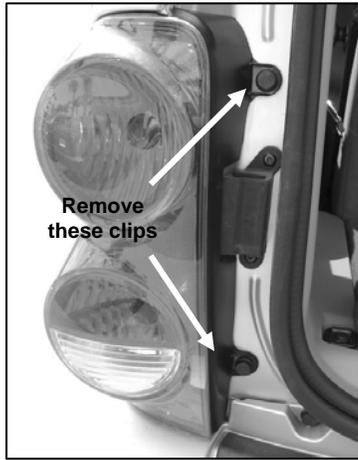

Figure 1
- Open the rear door and using a flat screw driver remove the plastic clips holding the driver side taillight housing (**Figure 1**). **NOTE:** You will not be re-installing these clips back.